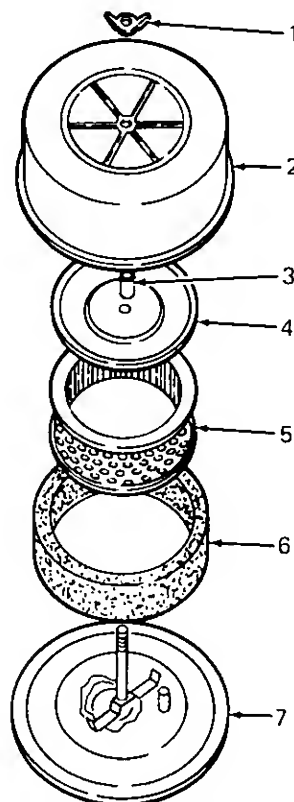

Figure 32. Air Cleaner Assembly
1. Remove wing nut and cover. (See Figure 32.)
This engine is equipped with a dry-type air cleaner element, which should be checked every 100 operating hours and replaced if dirty. It should be checked and if necessary replaced more often under extremely dirty, dusty conditions. Do not wash element in any liquid or attempt to blow dirt off with air hose as this will puncture filter element. Carefully handle new element — do not use if gasket surfaces are bent or twisted. Check the following when installing a new element: (See Figure 32.)